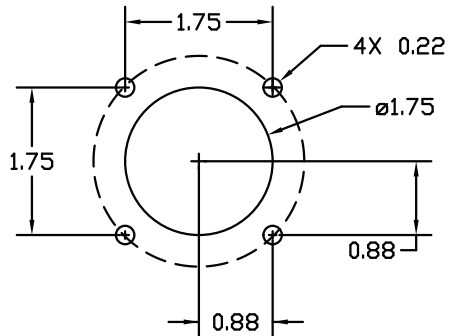
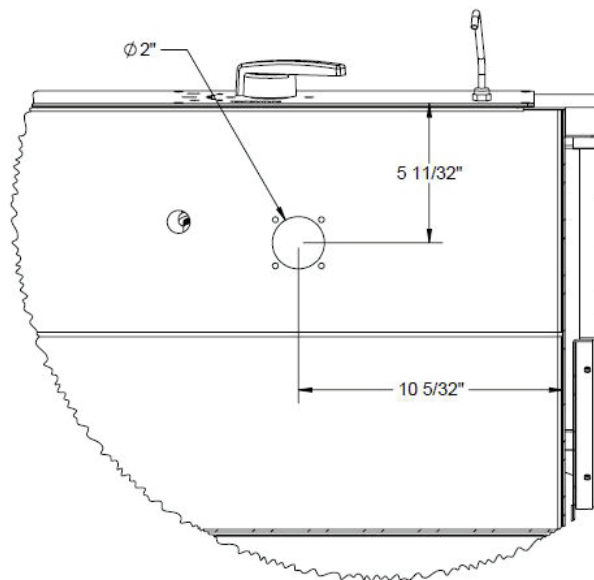

Figure 2: Hole Drill Pattern - Scrub Sinks
Figure 3: Hole location
1. Drill a hole pattern with the dimensions (shown in Figure 2) on the front face of the back sink basin wall. Locate the hole at the position indicated in Figure 3.